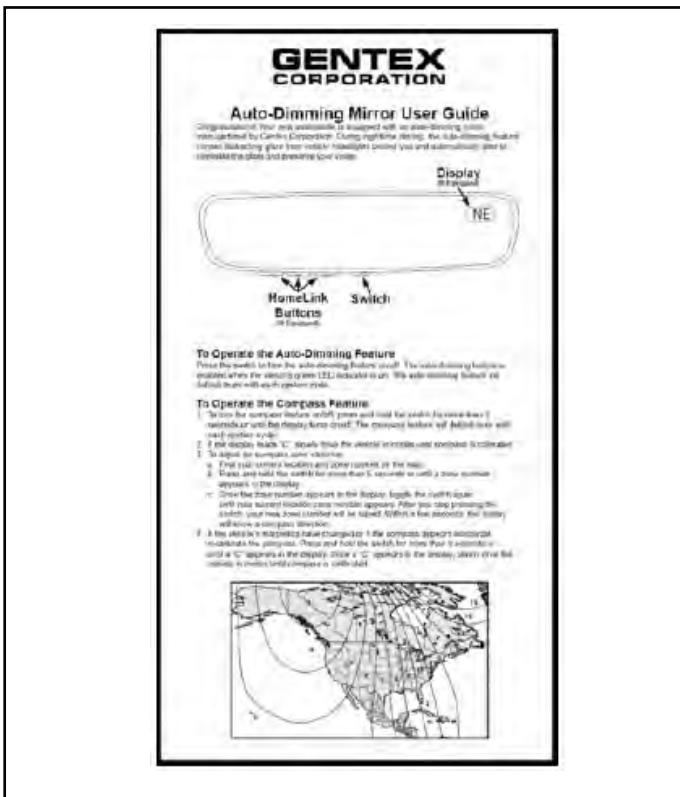

Figure 22
22. Place owner's cards in the glove box. See figure 22.